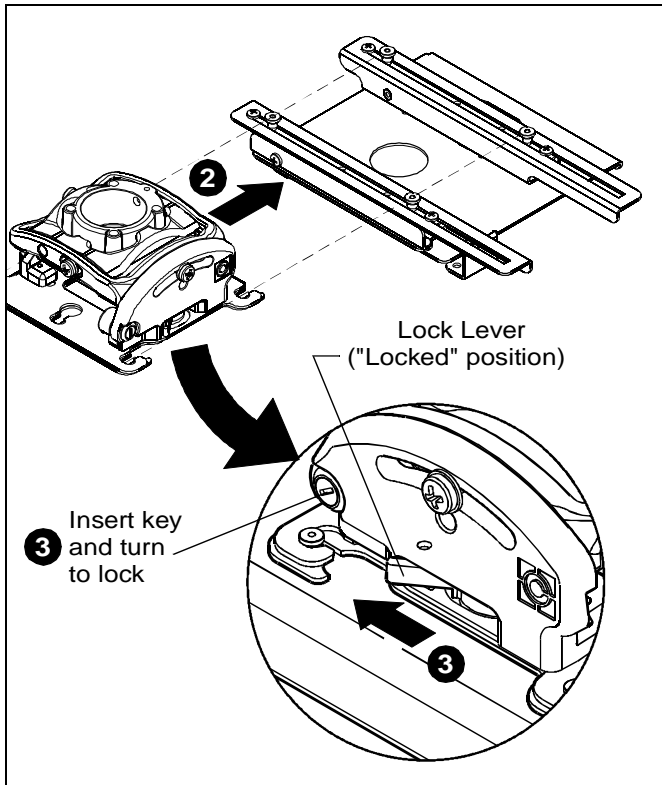

Figure 5
2. Slide RPMA onto LSB101 brackets (A and B).(See Figure 5)